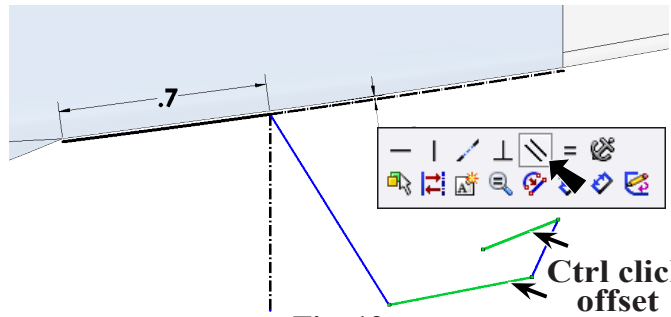

Fig. 12
Step 18. **Ctrl click the two lines shown in Fig. 12** to select both. Release Ctrl key and click **Make Parallel**  on the Context toolbar.